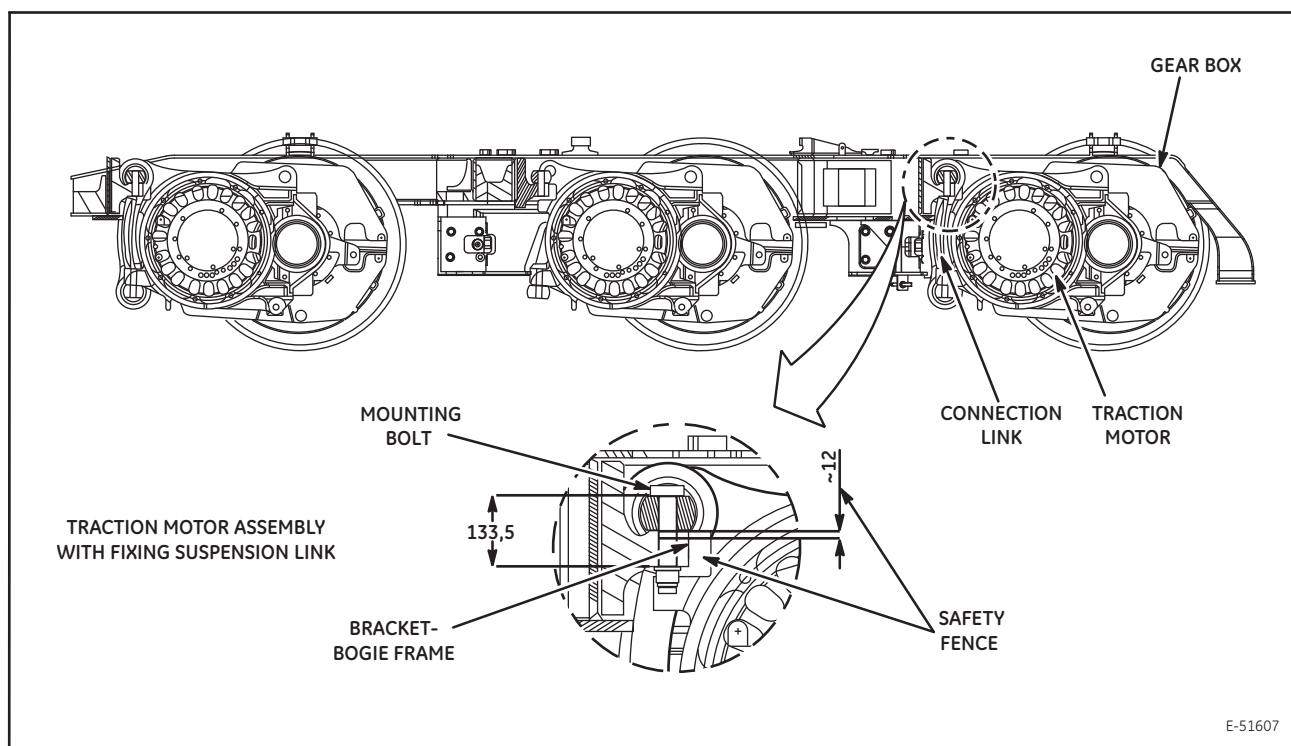

Figure 17. Traction Motor Assembly with Fixing Suspension Link
11. For the four coil spring sets at the traction motor assembly to be removed, place a spring retaining strap around the truck frame, UNDER the air piping and THROUGH the nested coil spring but around the OUTER or LARGER coils springs only at approximately the fifth coil. Join the strap ends, leaving at least 300 mm (12.0 in.) of slack in the straps (Figure 17).